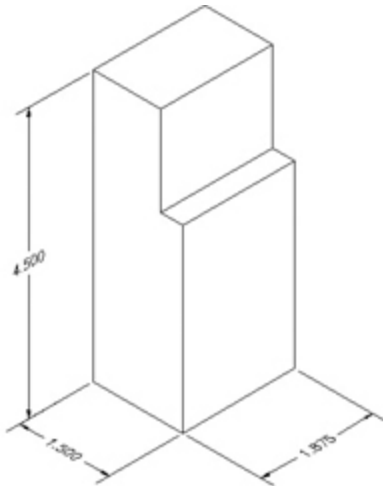

Figure 13-92
- 13** Save your drawing as **CH13_EXERCISE14**. Your drawing should resemble Figure 13-92.